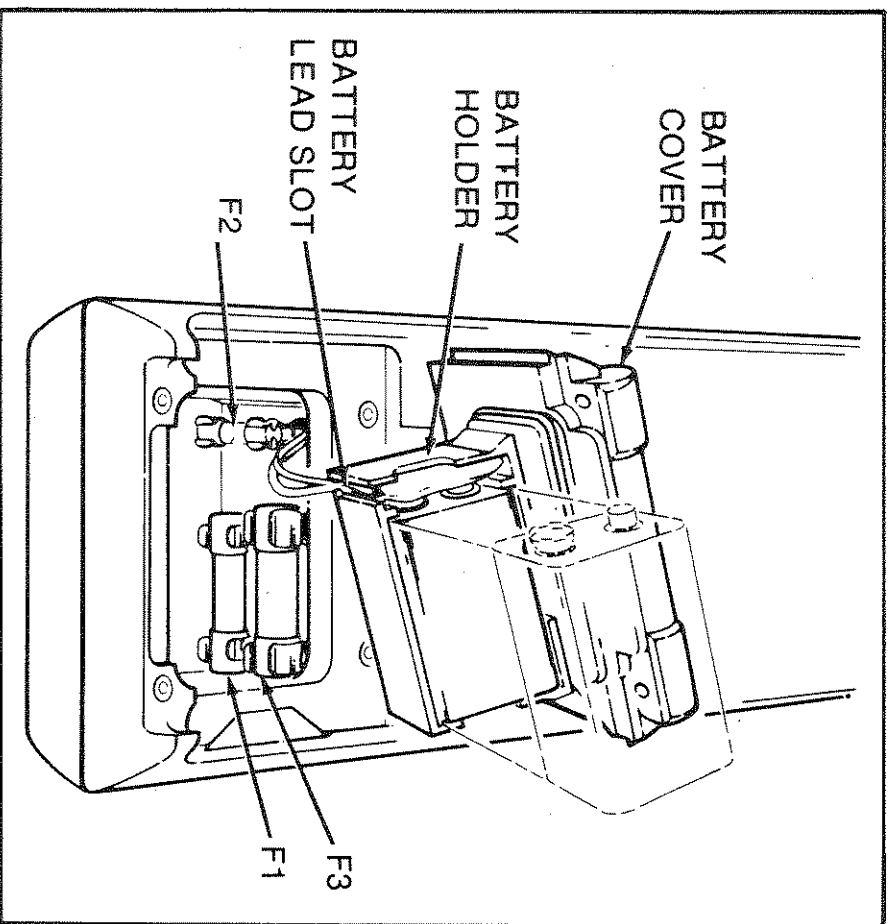

Figure 1. Battery and Fuse Replacement
A single 9V battery (NEDA 1604, 6F22, or 006P) supplies power to operate the Fluke 25/27. Referring to Figure 1, use the following procedure to replace the Fluke 25/27 battery:
5. Snap the battery connector to the terminals on the new battery, then slide the battery into the battery holder. Slip each battery lead into the slot in the holder as shown in Figure 1.
Referring to Figure 1, use the following procedure to check or replace the Fluke 25/27 fuses: